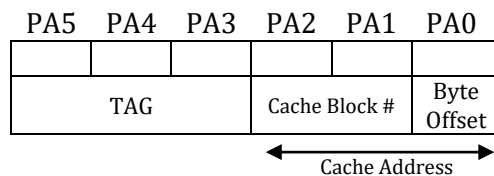
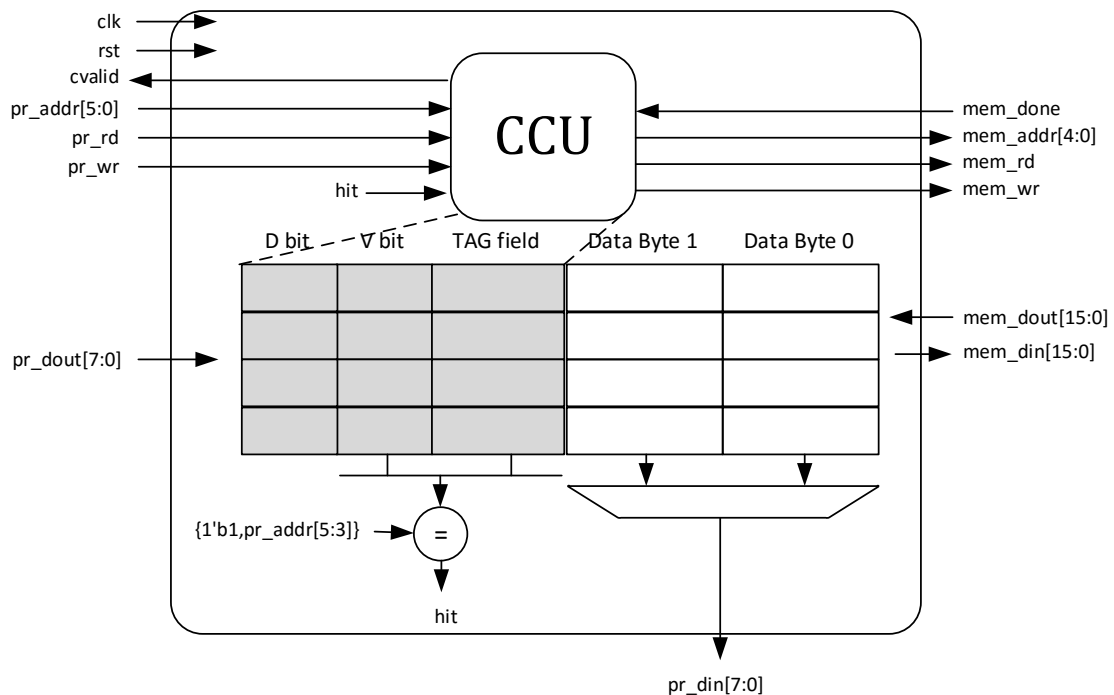
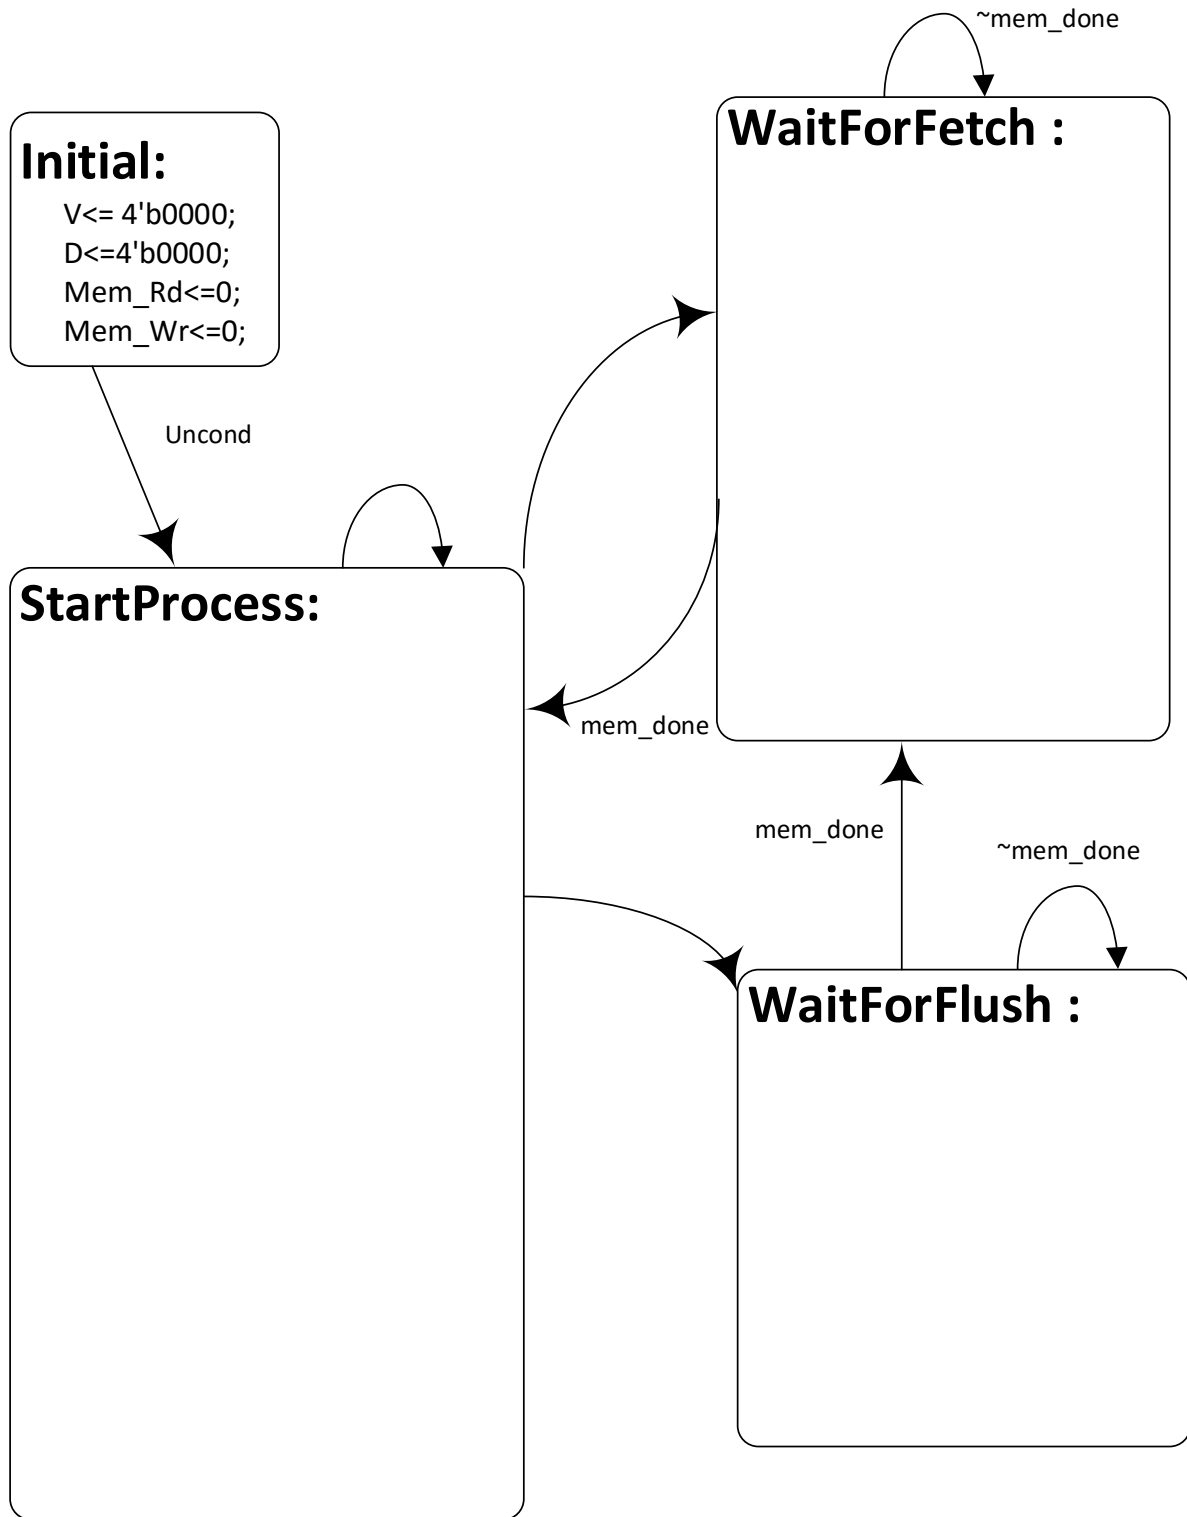

Fig. 1: Physical and Cache Address Format
Fig. 2: Direct-mapped Cache Organization
Fig. 3: CCU State Diagram
In this part, we will emulate the behavior of the single processor memory system. The address space of the main memory for a single core byte-addressable processor is assumed to be 64B. The internal data bus of the processor is 8 bits wide. The cache block size is 2-bytes (16-bits = a “word”) and the processor is enhanced with a direct-mapped cache with 4 blocks (i.e. 8 bytes). As a result, the physical and cache addresses will follow the format as shown in the Fig. 1. To facilitate single access block transfers to and from memory, the main memory is 16-bits wide and always performs a read/write of that data size. Thus we only need the upper 5 bits of the processor address bus to address the 32 words (64 bytes). Cache organization has been demonstrated in Fig. 2.
To check whether the block residing in the cache is the same as the one requested by the processor, the cache is indexed with pr_addr[2:1] (i.e. the 'cblk' field) and then the TAG of the cache block is compared with pr_addr[5:3]. V and D are valid and dirty bits, respectively. C.C.U. stands for Cache Control Unit and is in charge of coordination between processor and main memory. If a block is missed in the cache, the CCU will request the block from the main memory and waits until memory provides the data to the cache. When the memory finishes the transaction requested by the core, it sets mem_done signal high for a clock so the cache knows that the transaction is done. The cache that we implement here is a write-back cache; therefore, if a block is dirty in the cache and the processor wants to update it with another block, the dirty block needs to be written in the main memory first. **Note:** While the valid and TAG bits would generally be stored in a separate TAG RAM, we will just store them as a simple register array **in the CCU** (this is why those bits are shaded and lines drawn in Fig. 2 to indicate that TAG, V, and D are actually stored in the CCU).
1. Complete the state diagram for CCU as provided in the Fig. 3 using the signals demonstrated for CCU ports in the Fig. 2. **(10 pts)**
The description of the states in the Fig. 3 are as it follows.